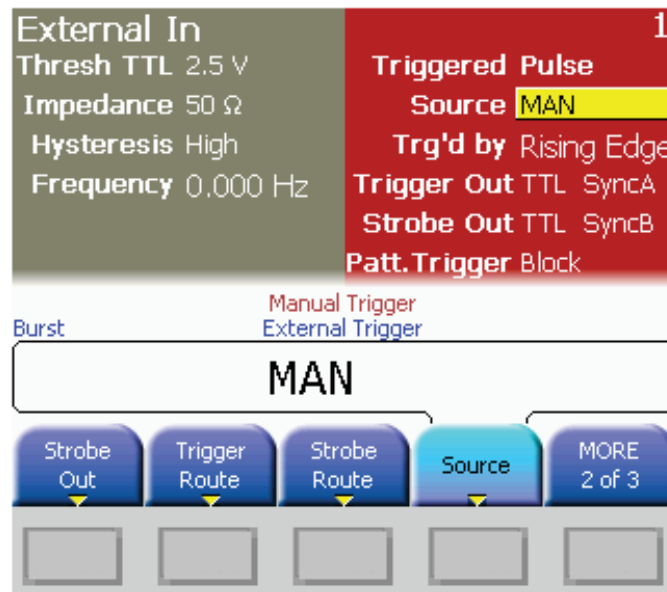

Figure 23: Defining the trigger condition for the whole test
The last step is to set the whole test to run on a manual trigger. This provides the flexibility to define the start of the test as it is required (see Figure 23):
- Leave the rest of the parameters on their standard settings as shown in Figure 23